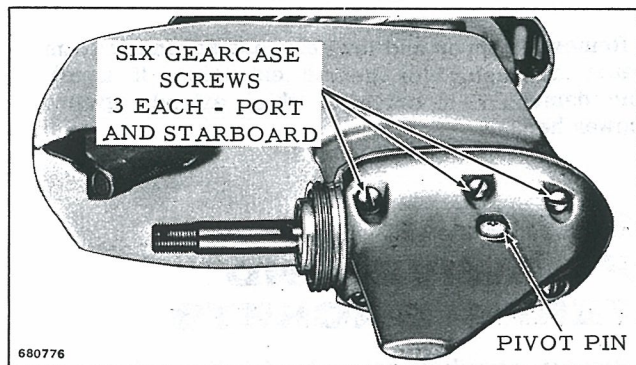

Figure 6-9. Gearcase Pivot Pin and Attaching Screws
c. Remove shift lever pivot pin from lower gearcase. See Figure 6-9. Remove six screws attaching lower gearcase to upper gearcase and separate gearcase halves.